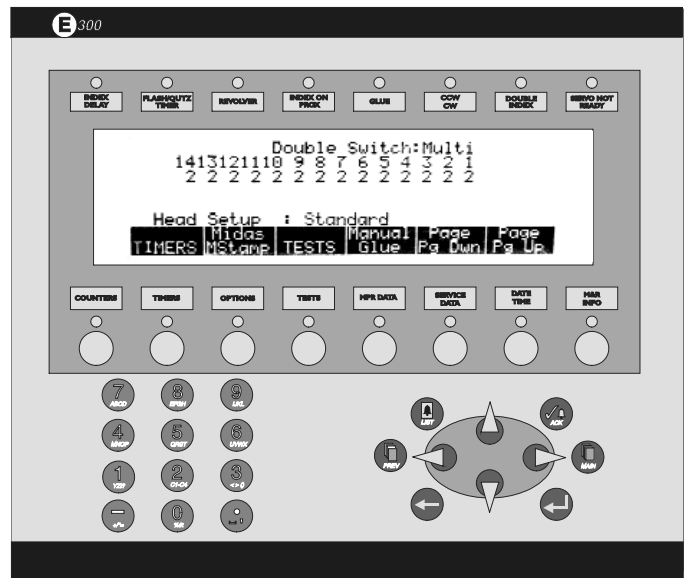

Figure 12
In figure 12 at the right all print stations have been set to "Double" mode and will print 2 flood/print cycles. To select print stations for "Multi-Print" operation, use the "ARROW" keys to place the flashing cursor on the number indication which represents the print station. Now press the appropriate number key (3 through 9) to enter the number of print cycles for that print station.